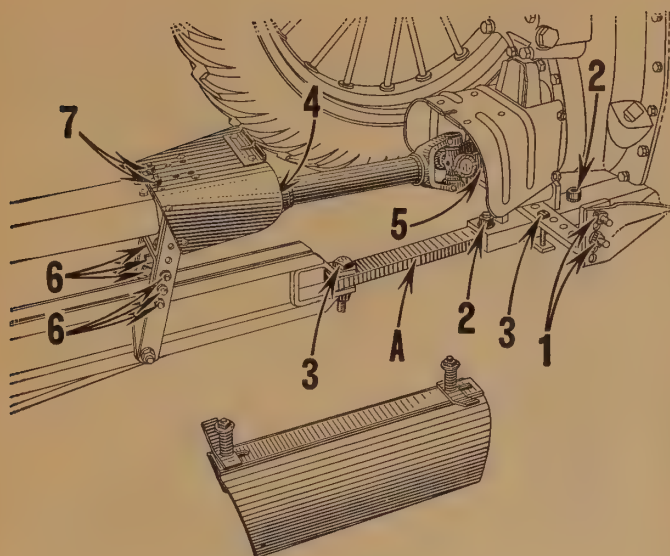

Fig. 15
1. (Fig. 15.) Secure swinging drawbar guide on tractor at proper height as shown—both sides.
2. (Fig. 15.) Model "A" Tractors below Serial No. 460,000 and Model "B" Tractors below Serial No. 42,200 only: Remove hitch loop from tractor and replace with pull bar "A" as shown.
3. (Fig. 15.) Clamp swinging drawbar in a central position and connect binder to tractor drawbar as shown.
4. (Fig. 15.) Remove tape around key in front end of telescoping pipe for power drive. Remove cap screw, lugged lock washer and notched retaining washer from front end of telescoping pipe. Slide rear universal joint onto front end of telescoping pipe and replace notched retaining washer, lugged lock washer and cap screw. Be sure to fit bent lug on lock washer into notch in retaining washer and to bend remaining lugs on lock washer over head of cap screw.
5. (Fig. 15.) Slide front splined universal joint onto take-off shaft and secure in place with clamp bolt and cotter.
6. (Fig. 15.) Adjust height of power shaft front bearing to level power line as shown.
7. (Fig. 15.) Bolt power shaft shield to rear set of holes in power shaft front bearing housing.